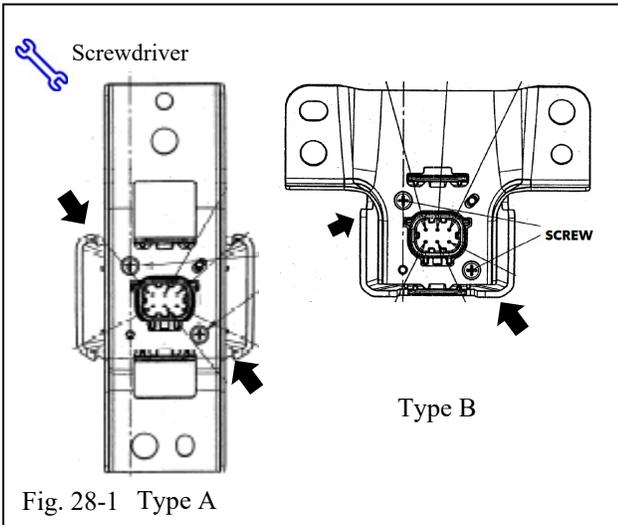

Fig. 28-1 Type A
- (a) Using a screwdriver, remove the 2 screws to detach the camera from the OE Bracket. Retain the screws for re-installation. (Fig. 28-1)